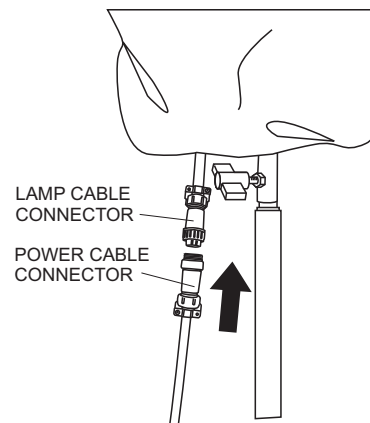

Figure 18. Connecting the Power Cable
5. Connect the power cable to the lamp cable connector. See Figure 18.